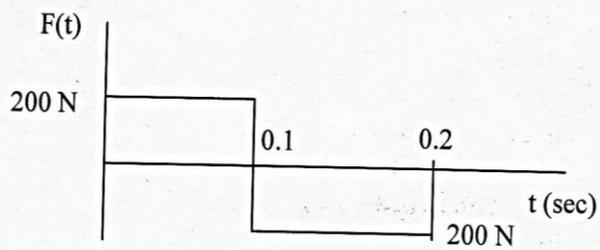

Fig.1
**Q.4 (a)** A single spring mass system has spring constant of 2000 N/m and mass of 20 kg. If it is loaded by a periodical load for which a single period is as shown in the Figure 1, derive the equation of the response using Fourier series. 07